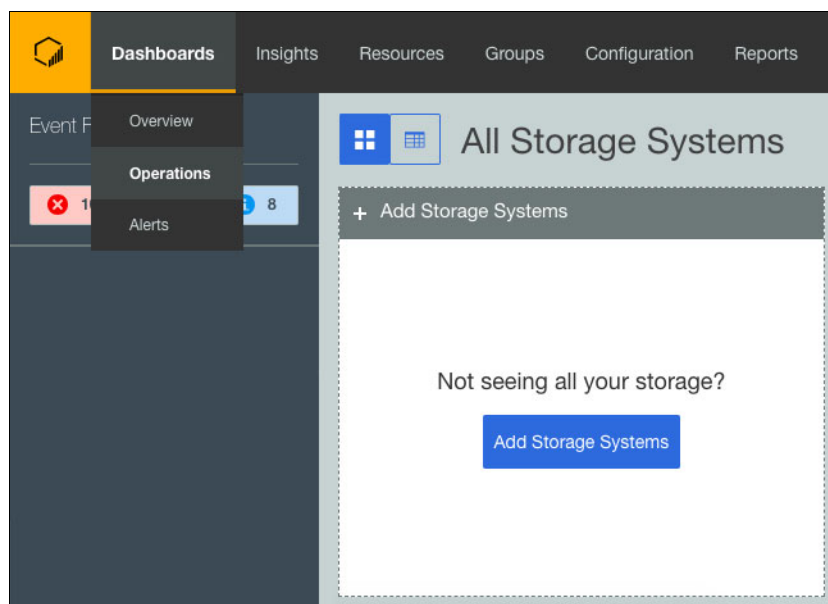

Figure 15-3 Adding new storage system
1. In the Dashboard's Operations tab, click the **Add Storage System** button to start. See Figure 15-3.